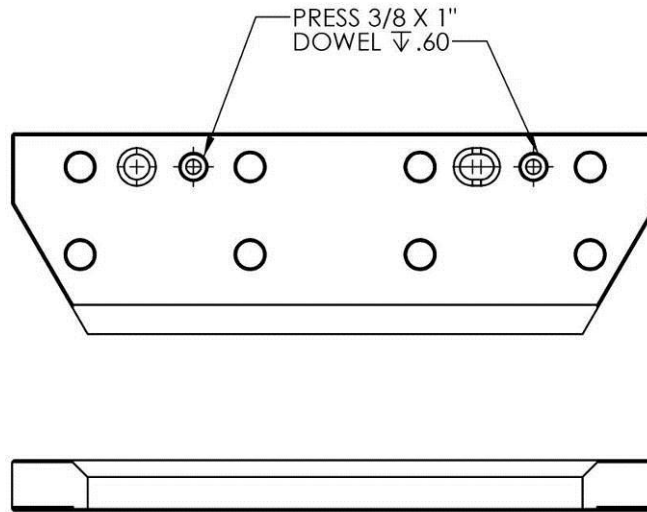

Figure 54: Prep Work for D0901531 Adapter Small Hex
- Locate D0901528 Small Upper Hex Wall on D0901531 Adapter Small Hex with the (2) pins already installed in D091531 (see Figure 54). Make sure pins seat properly into mating hole and slot.